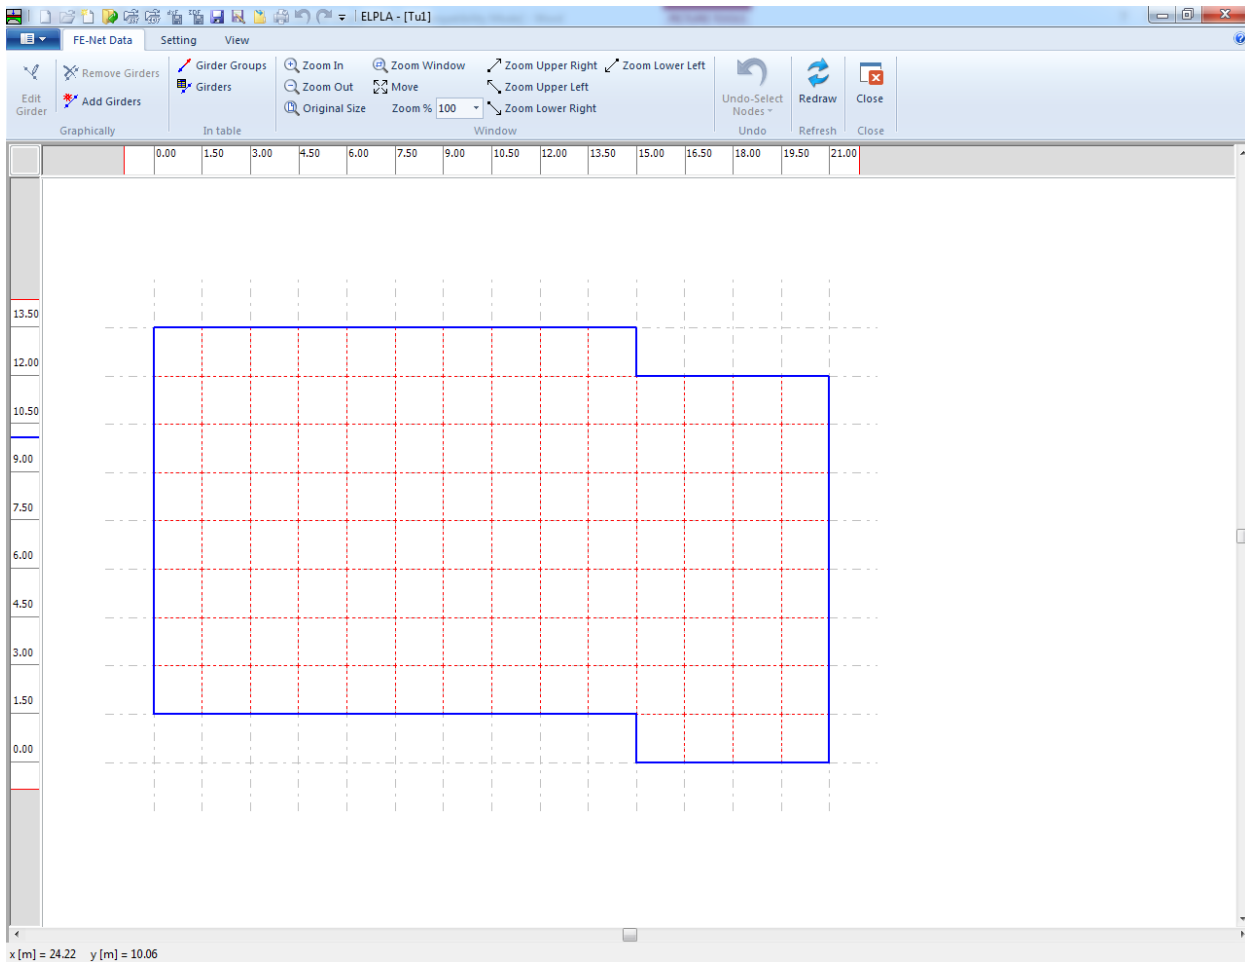

Figure 13.14 "Girders" window
To define the external walls, choose "Girders" command from "Data" Tab. The following window in Figure 13.14 appears.
- Choose "Girder Groups" command from "In table" menu in Figure 13.14.
- Choose "Add Girders" command from "Graphically" menu in Figure 13.14. When "Add Girders" command is chosen, the cursor will change from an arrow to a cross hair